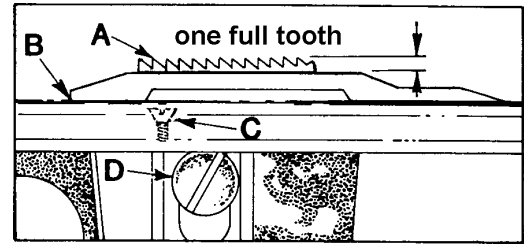

Fig. 10
Feed dog (A, Fig. 10) should be centered in throat plate (B) with equal clearance on all sides and ends with feed travel set to desired stitch length. At highest point of travel, tips of feed dog teeth should extend the depth of one full tooth +1/32 inch, above throat plate and parallel to same. Loosen screw (D), which secures feed dog in position, and adjust screw (C) up or down to support feed dog. Retighten screw (D).